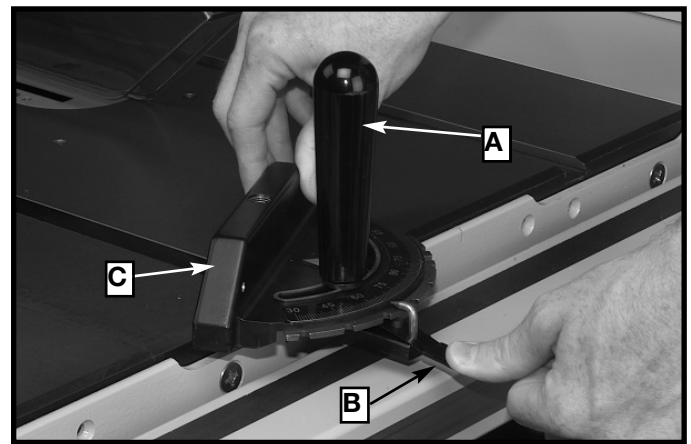

Fig. 40
To rotate the miter gage, loosen lock knob (A) Fig. 40, push the thumb lever (B) down and move the body of the miter gage (C) to the desired angle.